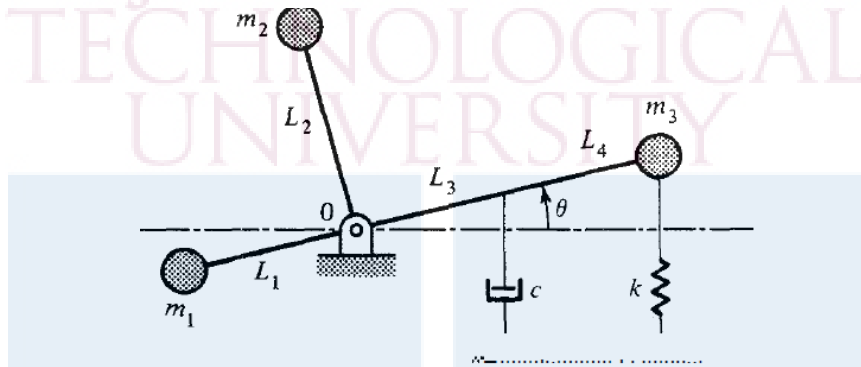

Fig 1: One degree of freedom system with damping
13. Derive the equation of motion of a spring mass system using energy method. Also derive the natural frequency of the system. (14)
14. A component of a machine is represented schematically in Fig. 1. Derive its equation of motion (14)